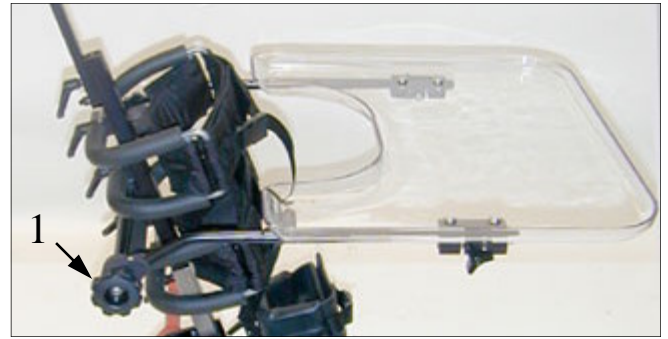
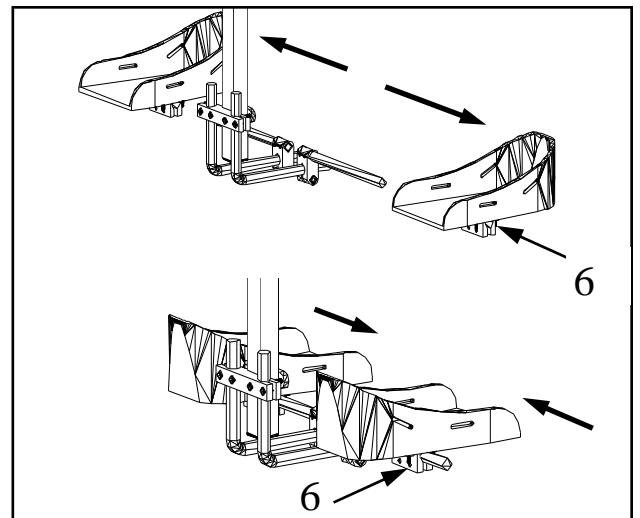

Figure 26
Figure 27
2. Move the tray (refer to figures 26):
- a) Release both hand knobs (1) then lift the tray off the tray mounting bar.
3. Move the foot supports (refer to figure 27):
- c) Loosen the four allen screws (6). Slide the foot supports off the footrest bars.